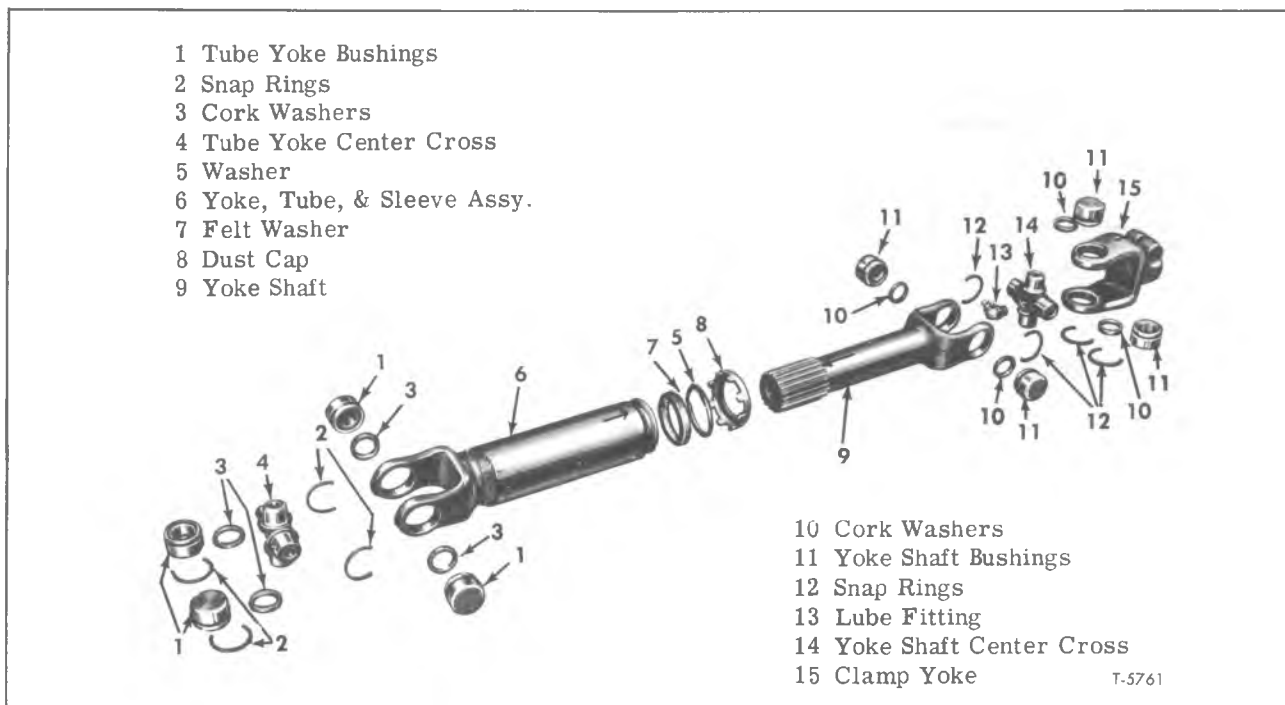
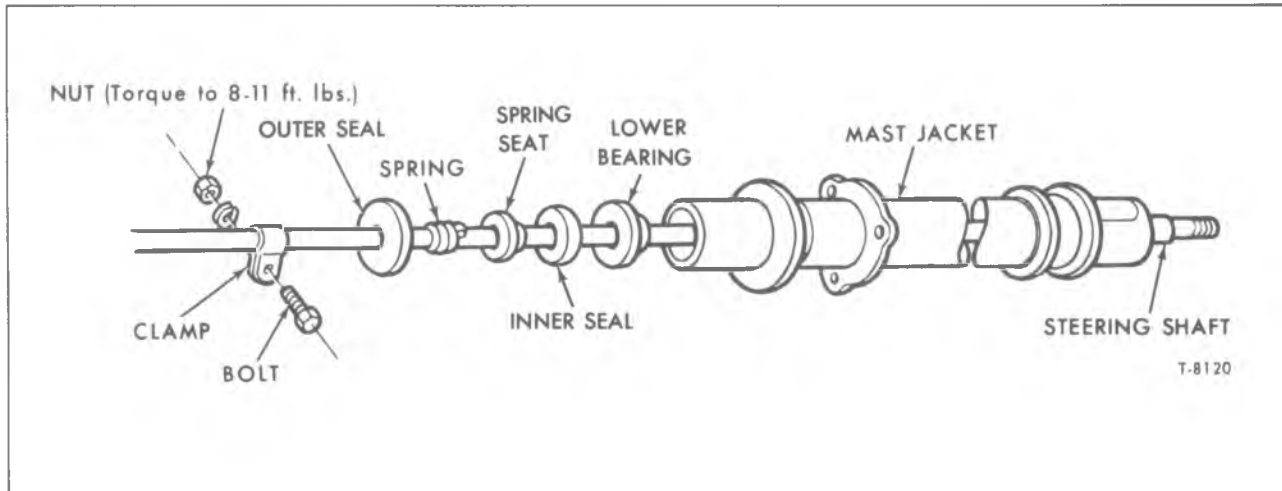
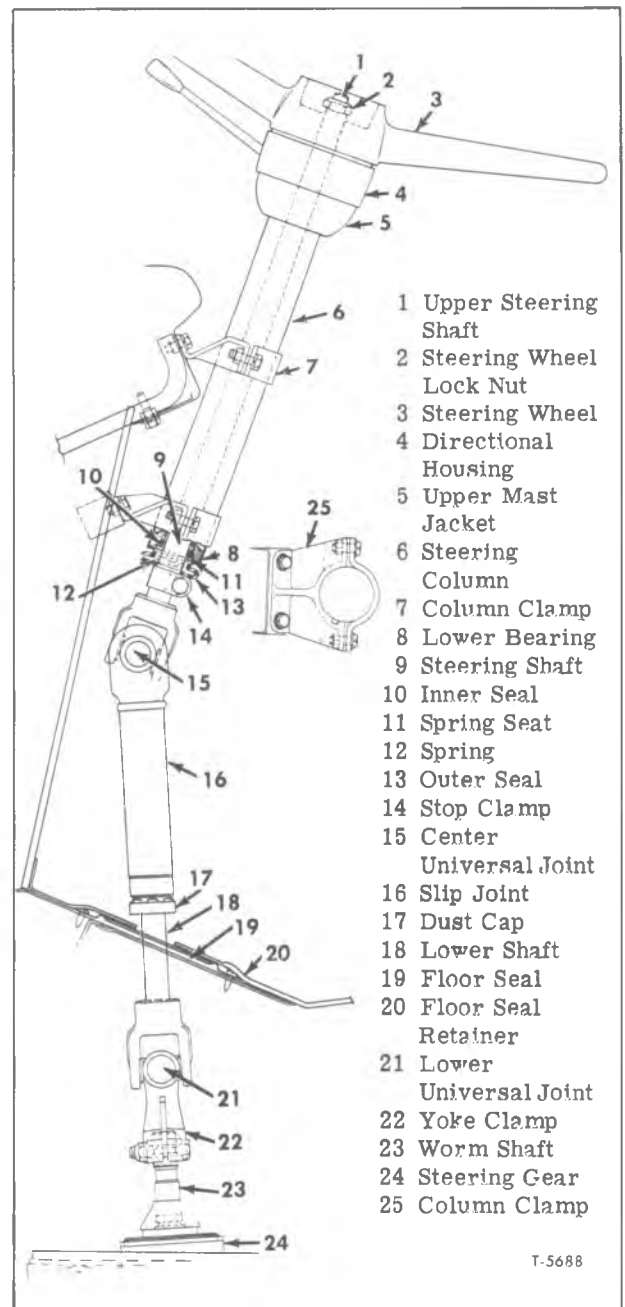

Figure 17—Intermediate Shaft (Typical)
Figure 18—Steering Column Mast Jacket Components (Conventional Cab)
Figure 24—Steering Column and Shaft (Tilt Cab)
REMOVAL (Refer to Figs. 18 and 19)
NOTE: A one-piece steering shaft is used on all cab models (fig. 18) and a two-piece shaft is used on all cowl models (fig. 19).
4. Pull steering shaft (fig. 19) (7) from steering column (5), and pry lower bearing (11) from tube, if bearing is worn or defective. Refer to figure 18 for conventional cab models.
5. Remove bearing inner seal (12), spring seat (13), spring (14) and outer seal assembly (15). Remove stop clamp (16) and bolt, if desired.
6. Referring to figure 17, on vehicles with two-piece shaft, remove snap rings (2) from inside of universal joint. Tap yoke sideways to dislodge bushing (1) of adjoining yoke, repeat operation until all bushings are removed. Remove cork seals (3) from journal and discard.
7. Referring to figure 17, to remove slip yoke (6) from lower shaft assembly (9), bend tabs of dust cap (8) away from retainer groove. Pull shaft (9), felt seal (7), and washer (5) from yoke sleeve (6).
3. On vehicles using two-piece steering column, assemble center universal joint (17), bushings, and seals to yokes, and journal using new repair kit. Lubricate joint when assembled.
5. Referring to figure 17, install tabbed dust cap (8), washer (5), and felt seal (7) on lower splined shaft, and joint assembly. Lubricate and insert splined end of shaft (9) into intermediate slip yoke assembly (6). Crimp ends of dust cap tabs into groove at end of slip yoke.
**NOTE:** Key numbers in following text refer to figure 24, except as otherwise noted:
**NOTE:** Key numbers in text refer to figure 24, except as otherwise noted.
1. Pull upper steering shaft (1) from steering column (6).
4. Remove directional switch housing (4) from column by turning counterclockwise to unlock from tabs.
5. Pull, or pry lower bearing (8) from steering column, if damaged or defective.
6. Remove inner seal (10), spring seat (11), spring (12), outer seal assembly (13), and stop clamp (14) from upper steering shaft.
7. Refer to figure 17 to separate upper and lower steering shafts at joint (15) (fig. 24). Remove two snap rings (2) (fig. 17), and tap yoke sideways to dislodge bushings (1) of adjoining yoke; repeat
8. To remove slip yoke (16) (fig. 24) from lower shaft assembly (18), bend tabs of dust cap (17) away from retainer groove. Pull shaft, felt seal, and washer, from yoke sleeve. Slide components from shaft, and discard seal.
NOTE: Refer to figure 24 for key numbers unless otherwise indicated.
4. At lower steering shaft (18), position floor seal (19), tabbed dust cap (17), metal washer, and new felt seal on splined yoke shaft (18). Lubricate splines lightly. Align arrows on yoke shaft and slip joint tube. Slide shaft into tube and crimp tabs of dust cap into groove in yoke tube.
5. Referring to figure 17, if lower shaft yoke clamp (15) was previously disassembled, assemble, installing new cork seals (10) to cross journal (14), install new bushings (11) and snap ring (12). Press or tap bushings in yoke over cross journals until snap rings can be installed in bushings.
6. Refer to figure 17, position center cross (4), and lower shaft (6) upper yoke in upper shaft yoke. Install all new cork washers (3), on journals (4), install new bushings (1) and snap rings (2). Press or tap bushings in yoke over cross journals until snap rings can be installed in bushings.
7. Slide stop clamp (14), outer seal (13), spring (12), spring seat (11) and inner seal (10) on upper shaft. Insert upper shaft into lower steering column bearing (8), and push upward through upper bearing until shaft extends past top of mast jacket.
#### INSTALLATION OF COLUMN AND SHAFT (Refer to Fig. 24)